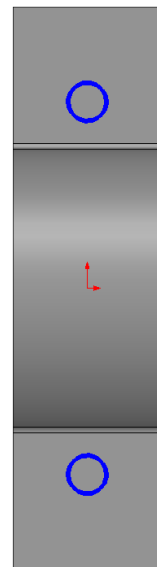

Fig. 10
- Step 4. Draw **two circles** for the holes, Fig. 10.